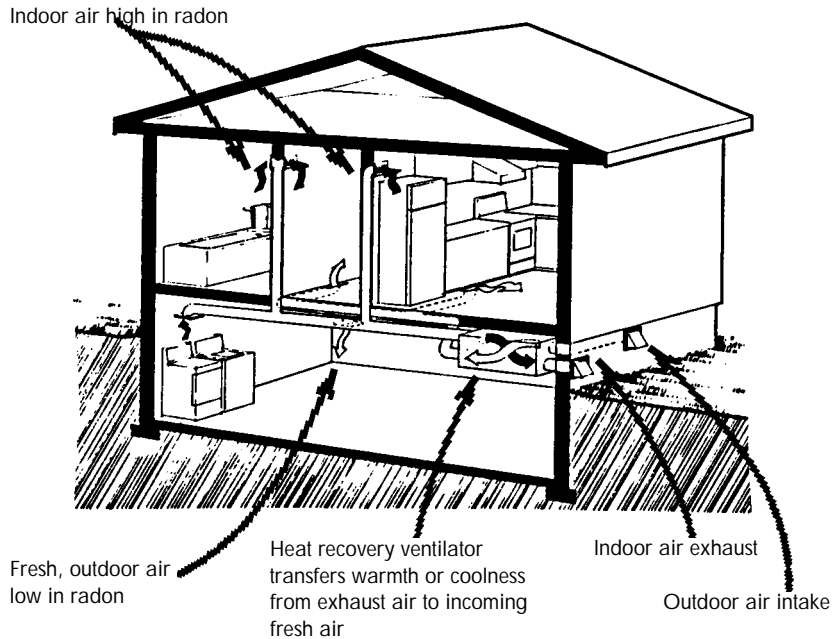

Figure 14: Increasing ventilation with a HRV
OPTION 4 is not depressurized which may draw in more radon. This can be accomplished by installing a heat recovery ventilator (HRV)(see figure 14).
- Install a balanced ventilation system such as a heat recovery ventilator (HRV). A balanced system relies on both supply and exhaust fans to provide ventilation (see **figure 14, page 20**). An HRV will reduce the energy penalty associated with providing more ventilation to a home.